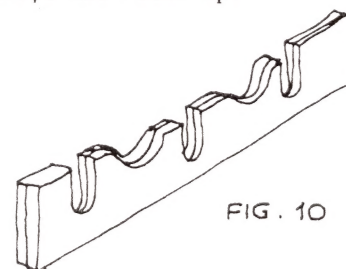

FIG. 10
Step 15 - offer up the frames to their position on the tender, resting them on the copper foil, and check that the axle holes are in the right positions. Note any portion of the frames which shows through the outer frames and file away any parts you don't want to be visible from the outside. See Figure 10. Separate the two brass strips and clean up.